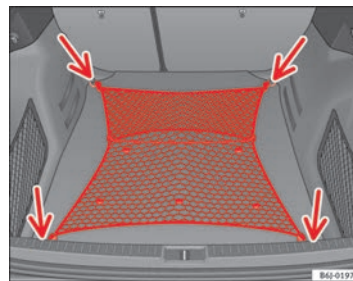

Fig. 92 Stretched luggage net
- Secure the luggage net to the four fastening rings -arrows- ⇒ fig. 92.